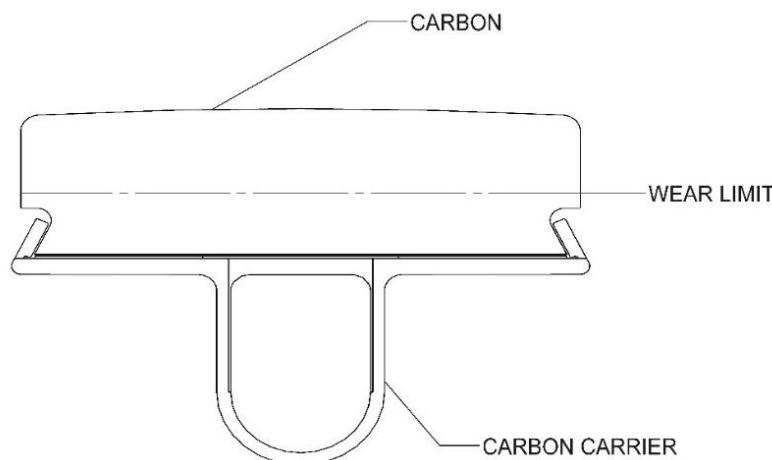

Figure 4-2: Carbon Wear
1. Visually inspect the carbons for wear. Ensure that there is at least 1/8 in (3.2 mm) of remaining carbon material. If the carbon has worn beyond this limit, replace the carbon assembly. See Figure 4-2.